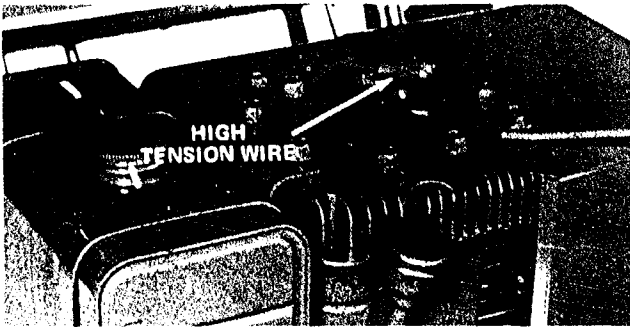

Figure 39
2. Pull high tension wire off spark plug (Fig. 39); then remove plug from cylinder head.
4. Push high tension wire onto spark plug (Fig. 39).